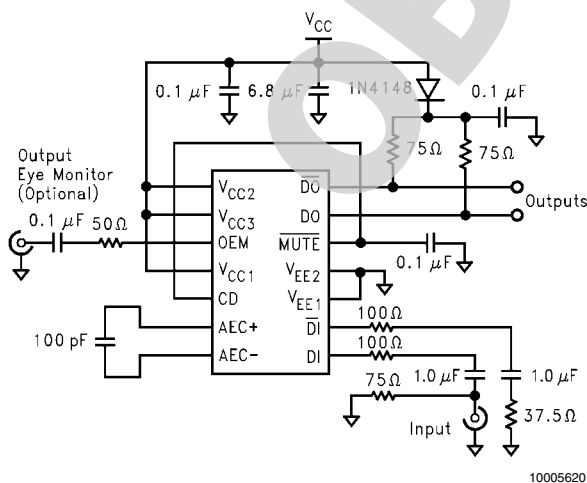

FIGURE 1. CLC014 Equalizer Application Circuit
**Carrier Detect (CD)** is a CMOS output that indicates the presence of equalized data from the filter. This CD output can be connected to **MUTE** to suspend changes in the data outputs **DO** and **DO-bar**, if no valid signal exists. This simple configuration prevents random output transitions due to noise. For sparse transition patterns it is recommended that a capacitor be connected to CD as shown in Figure 1.
The OEM is a high-speed, buffered output for monitoring the equalized eye pattern prior to the output comparator. Its output is designed to drive an AC-coupled 50Ω coaxial cable with a series 50Ω backmatch resistor. The cable should be terminated with 50Ω at the oscilloscope. Figure 1 shows a schematic with a typical connection.
The CLC014 operates from either +5V or -5.2V single supplies. Refer to Figure 1 when operating the part from +5V. When operating with a -5.2V supply, the  $V_{EE}$  pins should be bypassed to ground. The evaluation board and associated literature provide for operation from either supply.